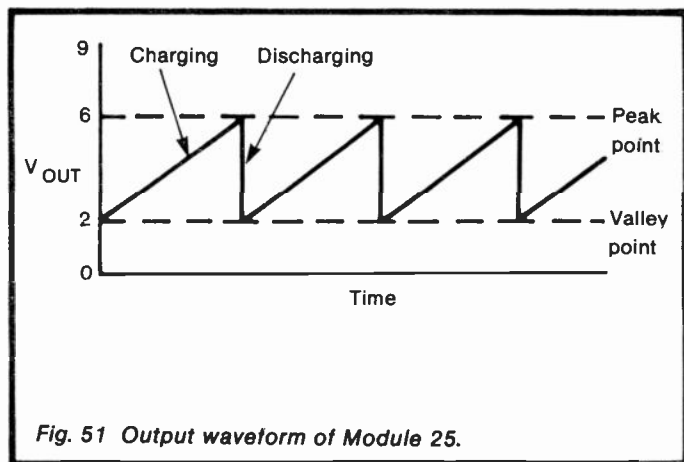

Fig. 51 Output waveform of Module 25.
*How it works:* TR1 is a unijunction transistor. TR2 together with R1, R2 and VR1, makes a constant current generator. Current flows through R2, VR1 and TR2 and gradually charges C1. When the voltage across C1 reaches a given value (the *peak point*, which is about 5 or 6V), current begins to flow into TR1 through the emitter and to the 0V rail by way of base 1. C1 is discharged rapidly, until the voltage across it has fallen to a lower value (the *valley point*, which is about 2V). The flow of current through the emitter then stops and C1 begins to charge again. Thus C1 charges slowly and discharges rapidly. The output of the circuit has a sawtooth waveform (Fig.51). Since the charging current
*Output specification:* see Figure 51. Frequency range is 2Hz to 10Hz (suitable as ramp generator).